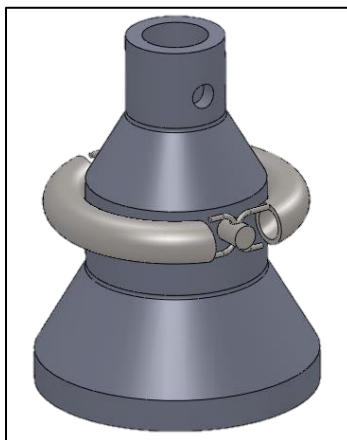

Figure 12: Extension Recovery Tool
11.3.3 If there are any extensions attached to the core barrel, try using the extension recovery tool (Figure 12). Attach it to the end of an extension string long enough to reach the down hole components. Lower it down and use the funnel to center the stem. Rotate the extensions until the locking pins attach to the down hole portion and then pull up the entire assembly.